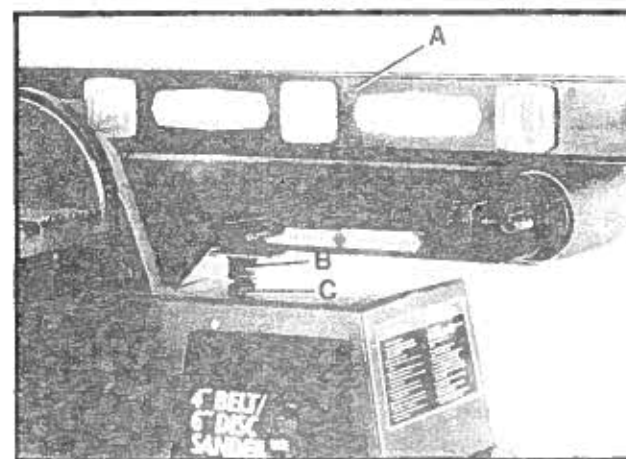

Fig. 27
2. Place a level (A) on the sanding belt and check to see if the arm is level, as shown in Fig. 27.
3. If an adjustment is necessary, loosen lock nut (B) Fig. 27, and turn sanding arm stop (C) in or out until the sanding arm is level. Then tighten lock nut (B).